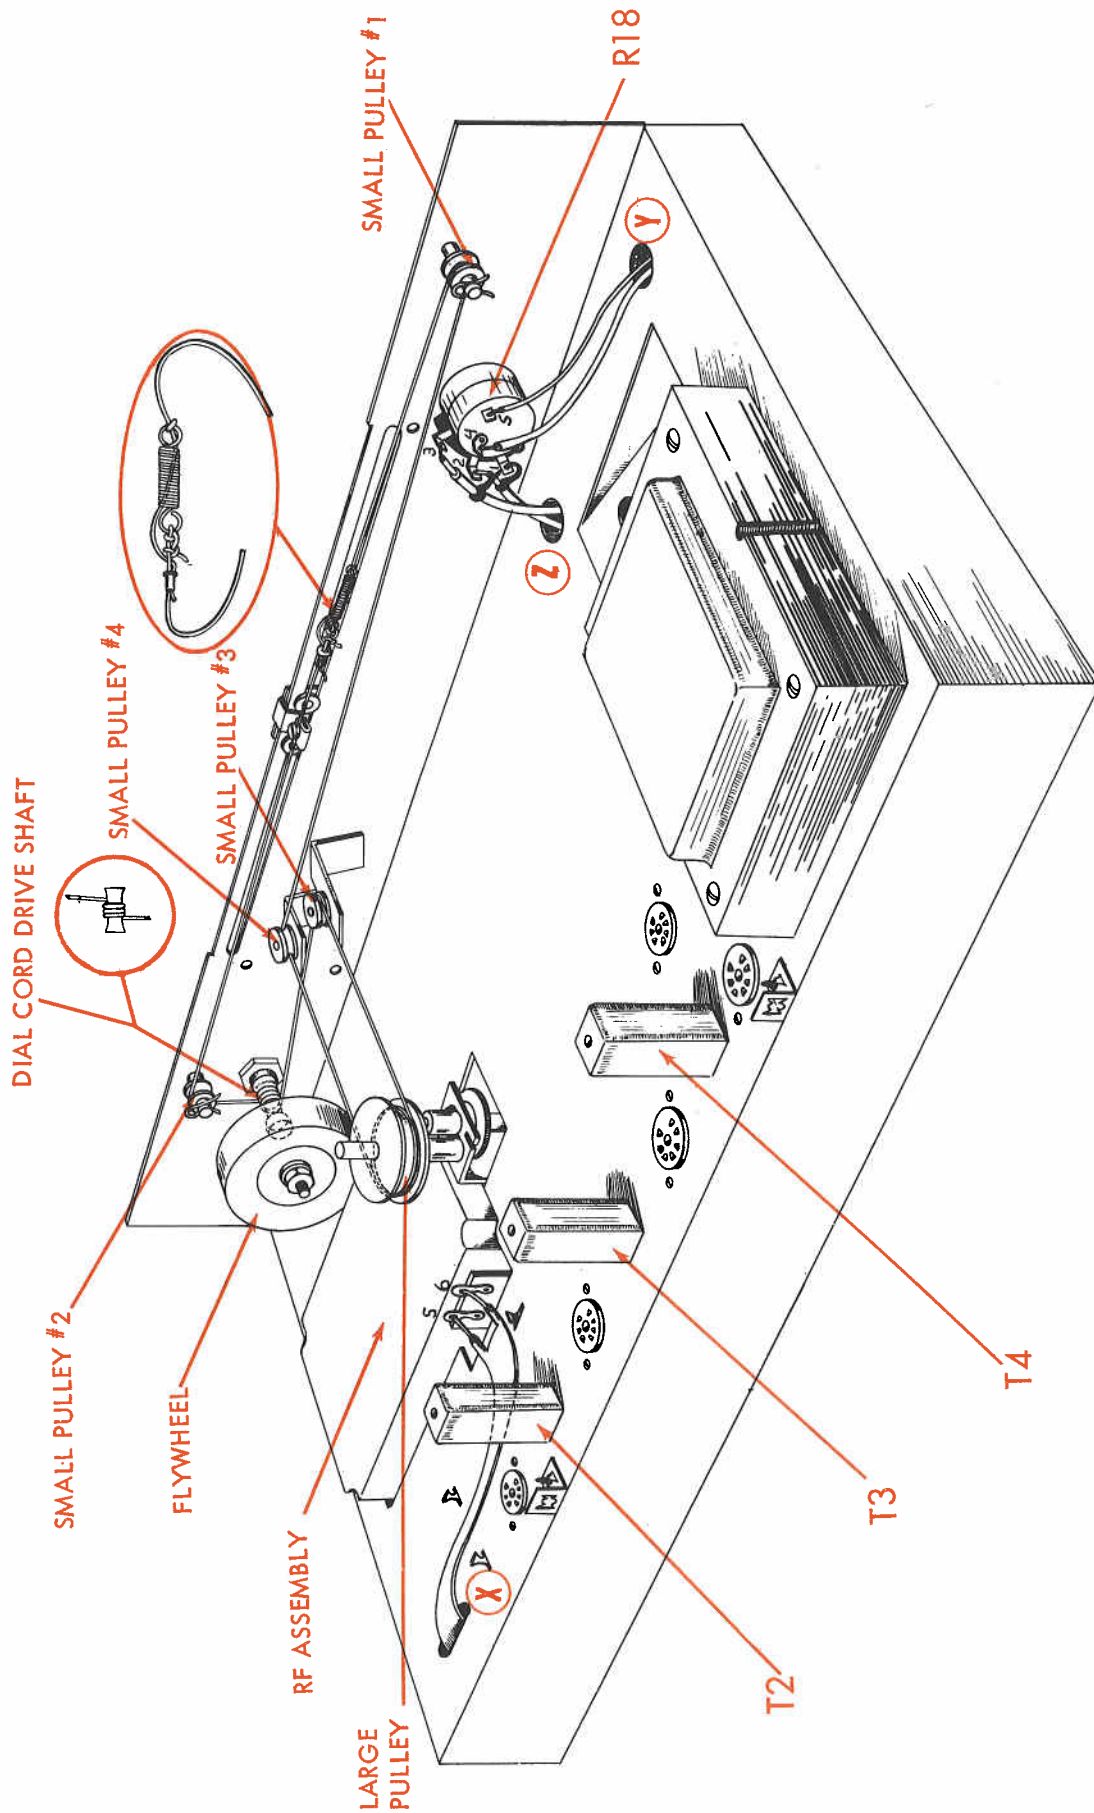

Fig. 7
1. (✓) Fig. 7. Connect one lead from hole "Y" to R18-5 (S) and the other lead to R18-4 (S).
2. ( ) Fig. 7. Connect the inner conductor of the grey single conductor cable emerging from hole "Z" to R18-3 (S). Connect the outer shield braid to R18-1 (C).
3. (✓) Fig. 7. Connect the inner conductor of the black single conductor cable emerging from hole "Z" to R18-2 (S). Connect the outer shield braid to R18-1 (S).
4. (✓) Fig. 7. Connect one lead of the twin lead cable emerging from hole "X" to pin 5 (S) on the RF assembly and the other lead to pin 6 (S). Do not overheat these terminals.
5. (✓) Fig. 7. Turn "front-end" (RF assembly) drive shaft maximum counter-
6. (✓) Fig. 7. Place 1/4" 1 D fibre washer on "front-end" (RF assembly) drive shaft. (See Fig. 1)
7. (✓) Fig. 7. Place large pulley (1" dia.) on drive shaft loosely over fibre washer. Mark position of set screw hole on top surface of pulley. Do not use force as this may cause damage to the drive gear. Do not tighten pulley set screw as the pulley must rotate freely for dial cord threading and tuning eye carriage setting. (See Fig. 1)